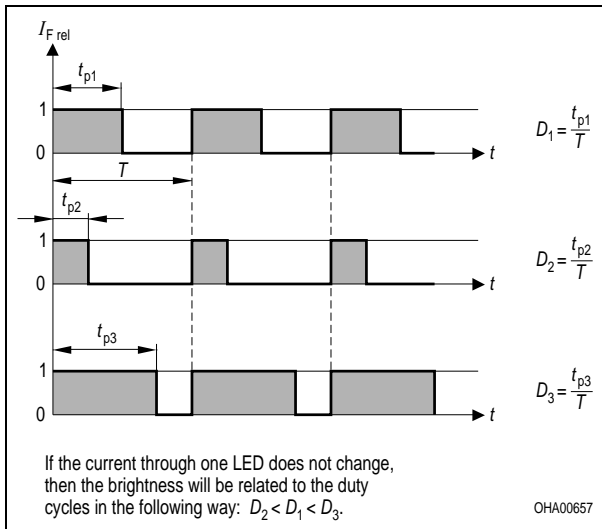

Figure 10 – PWM
PWM works in the following manner: the forward current (I_F) is kept at a constant value and only the duty cycle (D) is changed. The duty cycle ($D = t_p / T$) expresses the ratio between pulse duration (t_p) and signal period (T). This means the LED is rapidly switched off and on. If the frequency is greater than 200 Hz, the human eye cannot perceive the individual light pulses, even in motion. The eye integrates and interprets the light pulses in terms of brightness that can be changed by varying the duty cycle (Figure 10).